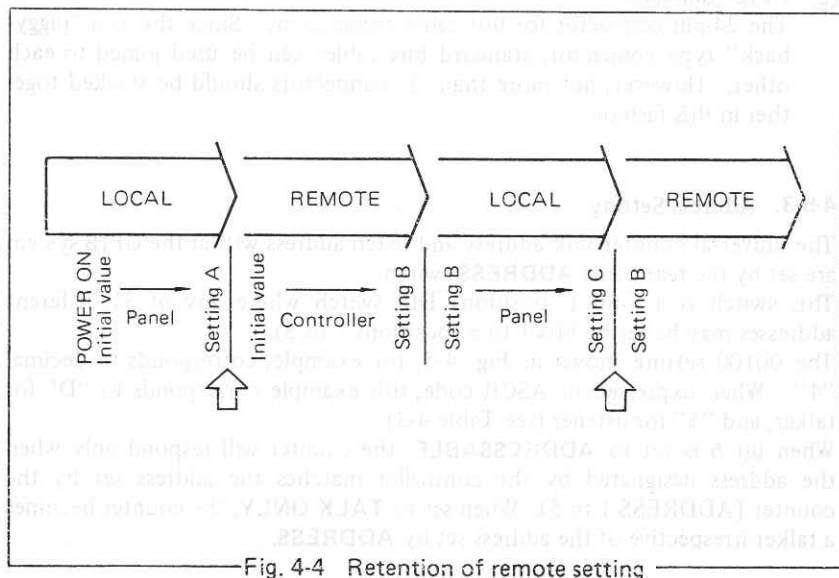

Fig. 4-4 Retention of remote setting
- (1) When the counter is set to Remote, the **RMT** lamp to the left of the front panel readout goes on.
- (2) While the **RMT** lamp is on, the following switches are disabled:
- (3) The Remote settings (such as function) are retained when the state of the counter is changed from Remote to Local by the controller unless the **POWER** switch of the counter is set to **OFF**. When the counter is returned to the Remote state after altering the state to Local and changing the settings by operating the panel switches, the previous Remote settings are retained. (It appears that the settings such as function are also changed by simply changing the state from Local to Remote.) (See the positions indicated by the arrows in Figure 4.4.)